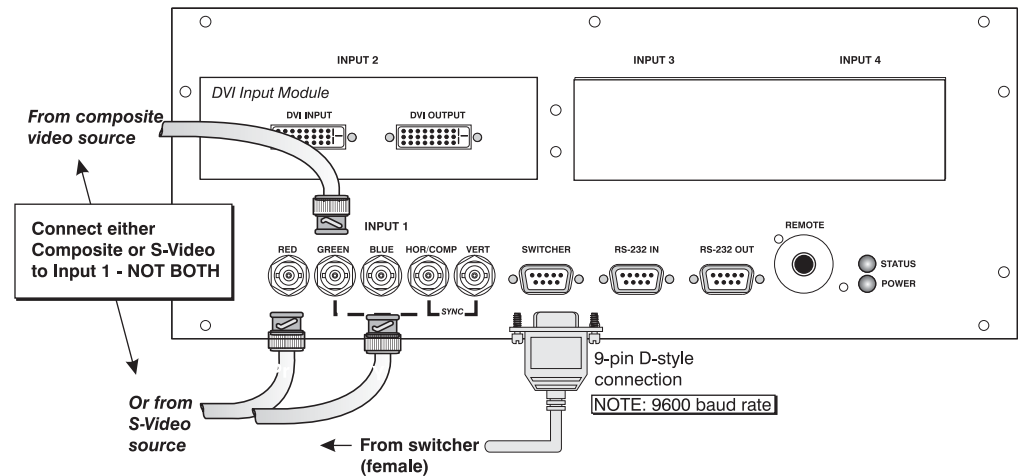

Figure 2.12. Connecting a Marquee™ Signal Switcher
- Connecting a switcher** ➤ You can use one or more external *Marquee™ Signal Switchers* or a third party switcher in order to significantly increase the number of sources you can select. If you are using a *Marquee™ Signal Switcher*, connect the switcher’s RGB output to **INPUT 1** and connect an RS-232 serial communication cable between the switcher and the projector serial port labeled **SWITCHER** (see Figure 2.12). The switcher communication link (permanently set at 9600 baud) enables you to access inputs connected to the switcher in the same manner as those connected directly to the projector. For most other third-party switchers, connect and access sources according to the documentation provided with that switcher. Use high quality shielded cables.
► If you are using more than one *Marquee™ Signal Switcher*, daisy-chain the RS-232 switcher inputs/outputs together to form a complete network of inputs accessible from the projector (you can network up to 9 switchers), and connect Switcher #1 to the projector as shown in Figure 2.12. In addition, connect the RGB output from each switcher to its matching slot on switcher #1—for example, connect the RGB output from switcher #2 to slot #2 on switcher #1, and the RGB output from switcher #3 to slot #3 on switcher #1. Note that slots used in this manner on switcher #1 are no longer recognized as inputs to the projector—if you select a slot location that is connected to another switcher’s RGB output, the projector will display the “no input signal” error message.